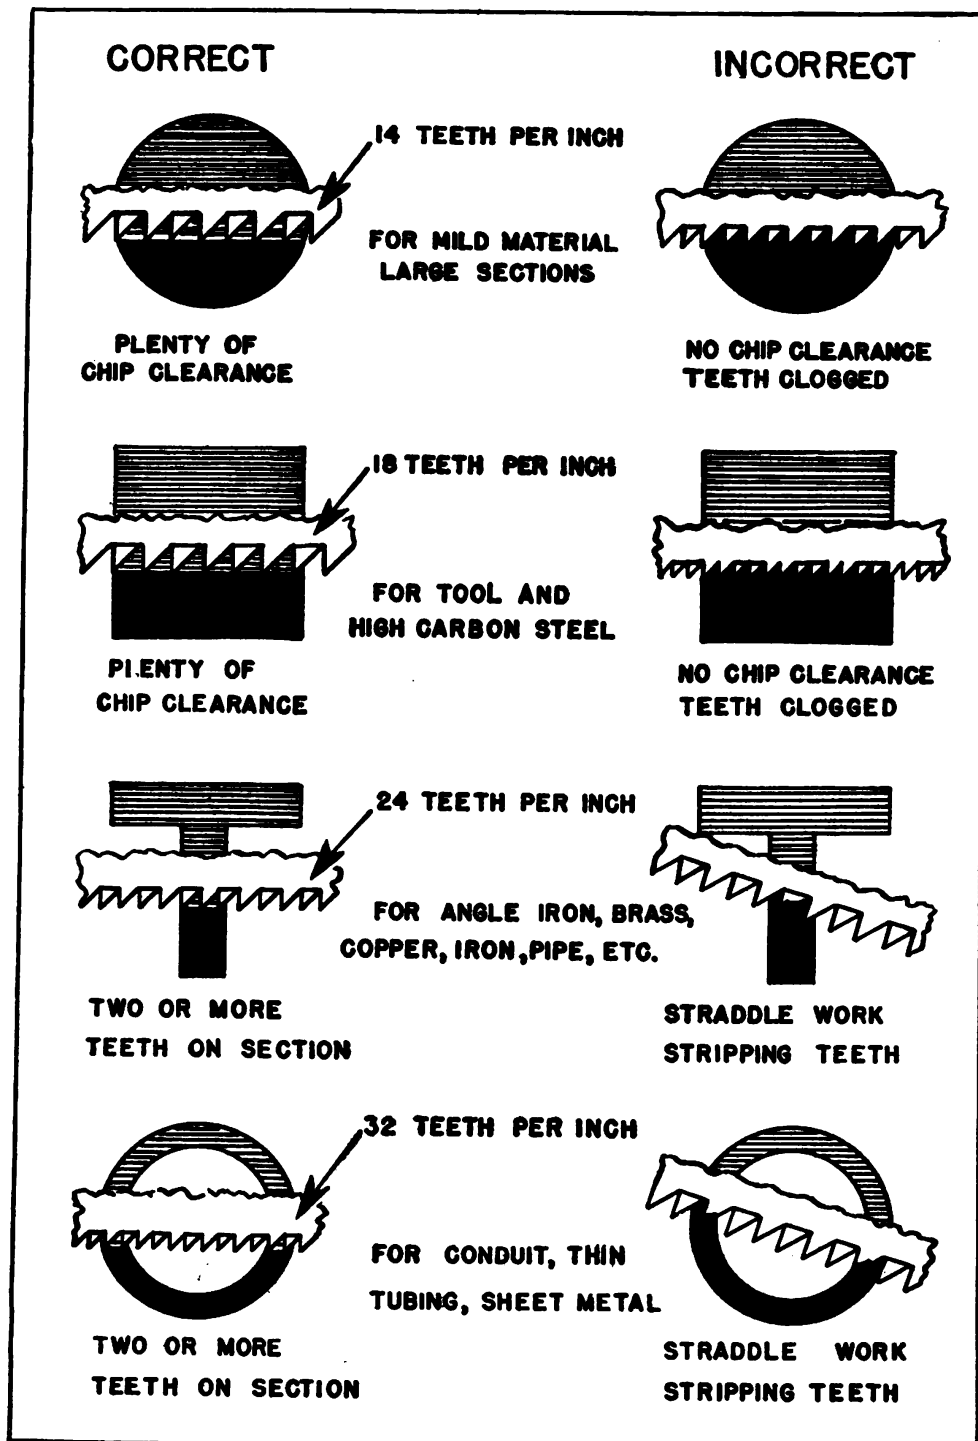

FIGURE 27.—Correct pitch of hacksaw blades.
(2) Figure 27 illustrates the principles involved in selecting blades with the most suitable pitch for most jobs. The following procedure will usually give good results:
(c) Use a blade with 24 teeth per inch on tubing, tin, brass, copper, channel iron, and sheet metal over 18 gage. If a coarser pitch is used, the thin stock will tend to strip the teeth out of the blade and make it difficult to push the saw. Two or more teeth should be in contact with the work, as figure 27 clearly shows.